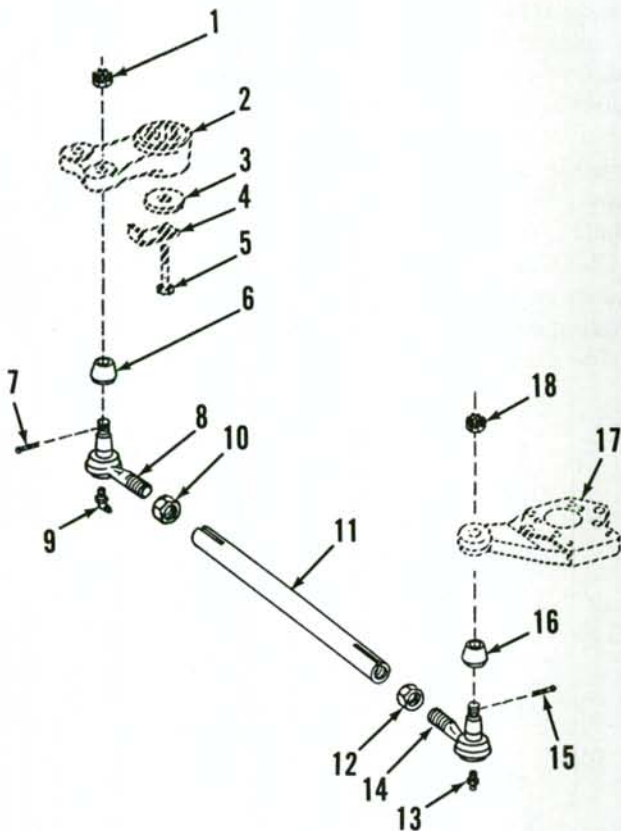

Fig. 7—Exploded view of right tie rod assembly and relative components used on models equipped with front-wheel drive. Left tie rod is similar.
7. Tie rod ends are not adjustable for wear and faulty units must be renewed. Removal of tie rods is obvious after examination of unit and reference to Fig. 7.